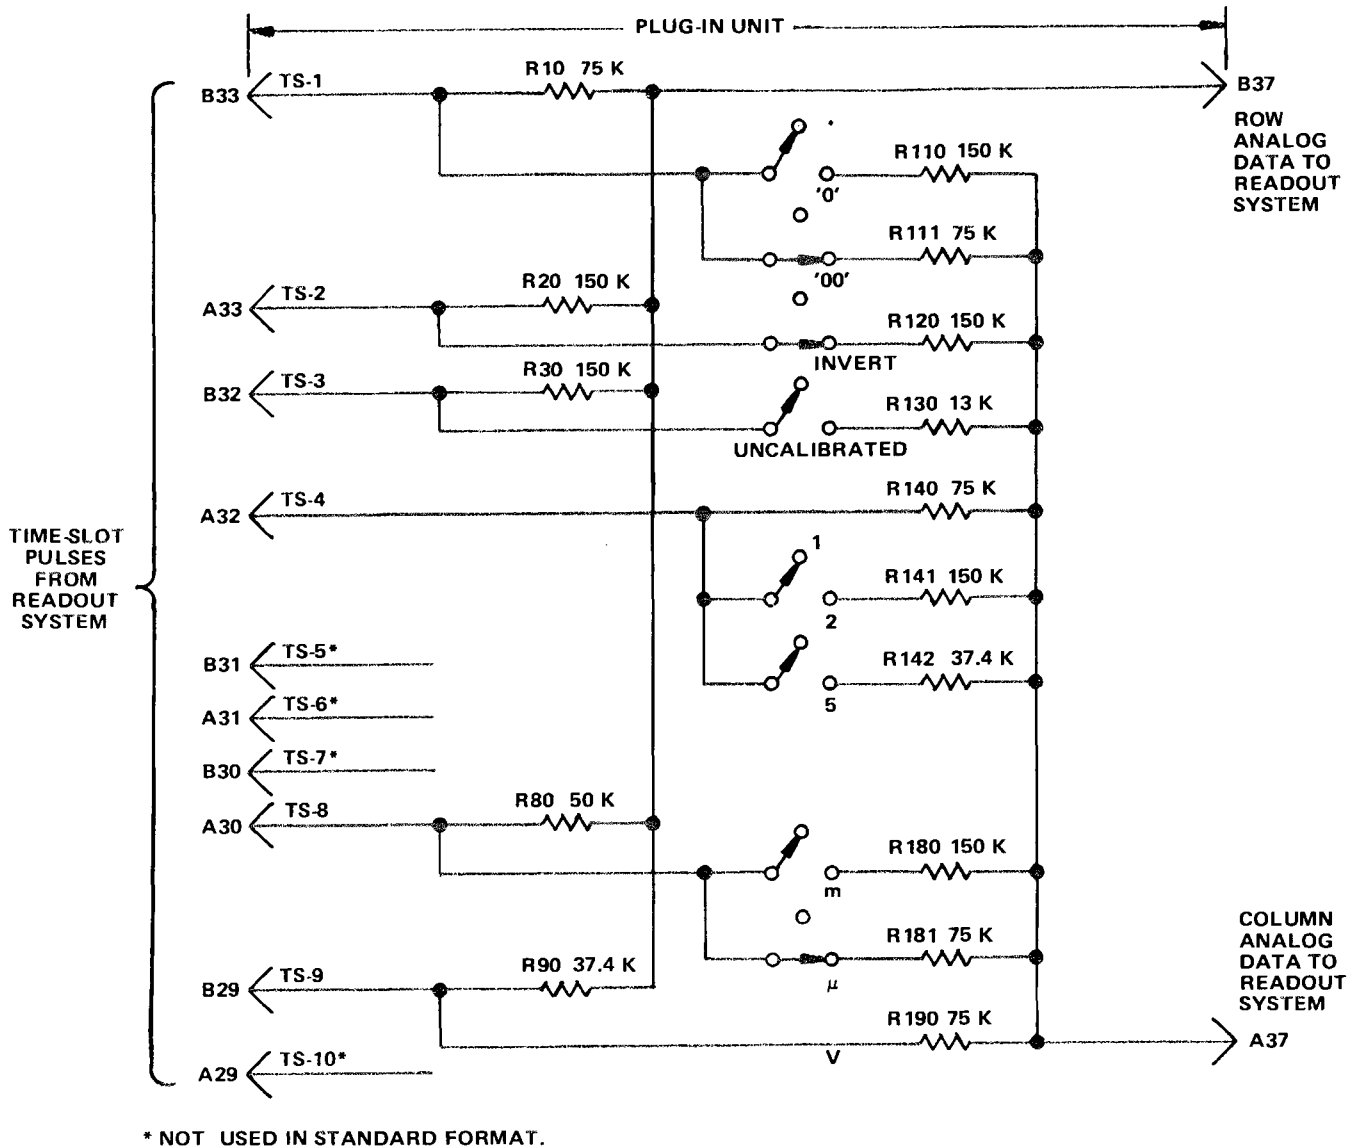

Figure 3-32. Typical encoding scheme for voltage-sensing amplifier plug-in unit. Coding shown for deflection factor of 100 microvolts.
Data is conveyed from the plug-in units to the Readout System in the form of an analog (current level) code. The characters that can be selected by the encoded data are shown on the Character Selection Matrix (see Figure 3-25). Each character requires two currents to define it; these currents are identified as the column current and the row current, corresponding to the column and row of the matrix. The column and row data is encoded by programming the plug-in units. Figure 3-32 shows a typical encoding scheme using resistors for a voltage-sensing amplifier plug-in unit. Notice that the 10 time-slot (TS) pulses produced by the Time-Slot Counter stage are connected to the plug-in unit. However, time-slots 5, 6, 7, and 10 are not used by the plug-in unit to encode data when using the Standard Readout Format. (See Table 3-2 for Standard Readout Format.) The amplitude of the time-slot pulses is exactly -15 volts as determined by the Timer stage. Therefore, the resultant output current from the plug-in units can be accurately controlled by the programming resistors in the plug-in units.
For example, in Figure 3-32 resistors R10 through R90 control the row analog data, which is connected back to the Readout System. Figure 3-33A shows an idealized output current waveform of row analog data, which results from the time-slot pulses. Each of the row levels of current shown in these waveforms corresponds to 100 microamperes of current. The row numbers on the left-hand side of the waveform correspond to the rows in the Character Selection Matrix (see Figure 3-25). The row analog data is connected back to the Readout System via terminal B37 of the plug-in interface.
The column analog data is defined by resistors R110 through R190. The program resistors are connected to the time-slot lines by switch closures to encode the desired data. The data as encoded by the circuit shown in Figure 3-32 indicates a 100-microvolt sensitivity with the crt display inverted and calibrated deflection factors. This results in the idealized output current waveforms shown in Figure 3-33B at the column analog data output, terminal A37 of the plug-in interface.
The column analog data encoded by most plug-in units can be modified by attenuator probes connected to the input connectors of amplifier plug-in units. A special coding ring around the input connector of the plug-in unit senses the attenuation ratio of the probe (with readout-coded probes only). The probe contains a circuit which provides additional column current. For example, if a 10X attenuator probe is connected to a plug-in unit encoded for 100 microvolts as shown in Figure 3-32, an additional unit of current is added to the column analog data during time-slot 1. Since two units of current were encoded by R111 (see Figure 3-32), this additional current results in a total of three units of column analog current during this time-slot. Referring to the Character Selection Matrix, three units of column current, along with the two units of row current encoded by R10, indicates that the prefix should be shifted one column to the left. Since this instruction occurs in the same time-slot that previously indicated that two zeros should be added to the display and only one instruction can be encoded during a time-slot, the zeros do not appear in the display. The crt readout will now be changed to 1 mV (readout program produced by plug-in same as for previous example).
Finally, memory C is interrogated during time-slot 8 to obtain information on whether the prefix should be changed, or left at the value that was encoded. If data has been encoded that calls for a shift in prefix, a negative-going output level is produced at pin 7. This negative level subtracts one unit of column current from the data at the input to the Column Decoder. Notice on the Character Selection Matrix of Fig. 3-25 that when row 4 is programmed, a reduction of one column results in a one-column shift of the prefix. For example, with the 100 μ V program shown in Fig. 3-32, if the data received from the plug-in called for a shift in prefix, the crt readout would be changed to 1 mV (zeros deleted by program, see Encoding the Data).